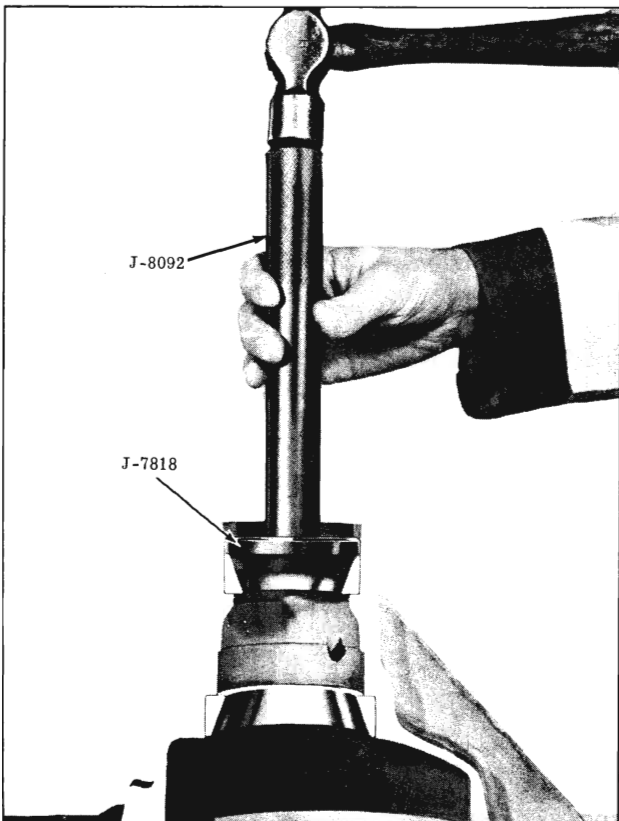

Fig. 6-30 Installing Front Bearing Outer Race
2. Press outer race of front pinion bearing firmly against shoulder in carrier. (Fig. 6-30)